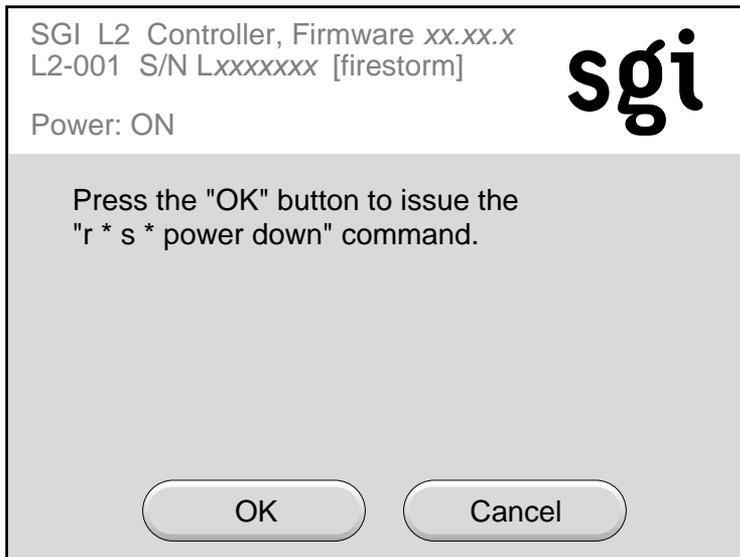

Figure 1-23 Power Down Confirmation Window
7. After you have selected the destination of the bricks you want to power off, select **Power DOWN** from the home window; the power down confirmation window, shown in Figure 1-23, appears. This window indicates which bricks will receive the **Power DOWN** command. In this example, the window indicates that all slots (bricks) in all racks (*r * s**) will be powered off. If you select **OK**, the power-off operation is confirmed and the home window appears. Selecting **Cancel** stops the power-off operation and the home window appears.